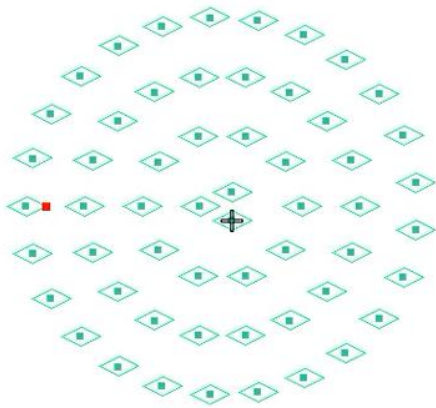

图 1
(6) 鼠标左键点击如图 1 所示，或者鼠标左键后按“Shift”键切换成如图 2 所示的折线。
Click the left mouse button as shown in Figure 1, or press the "Shift" key after the left mouse button to switch to the polyline shown in Figure 2.